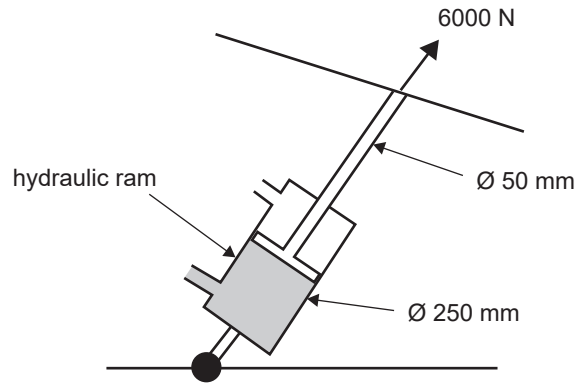

Figure 15
- c. The tip truck uses a hydraulic system to raise the tray, as shown in Figure 15.
Calculate the pressure needed in the shaded area of Figure 15 to create the 6000 N force required. Show your working.